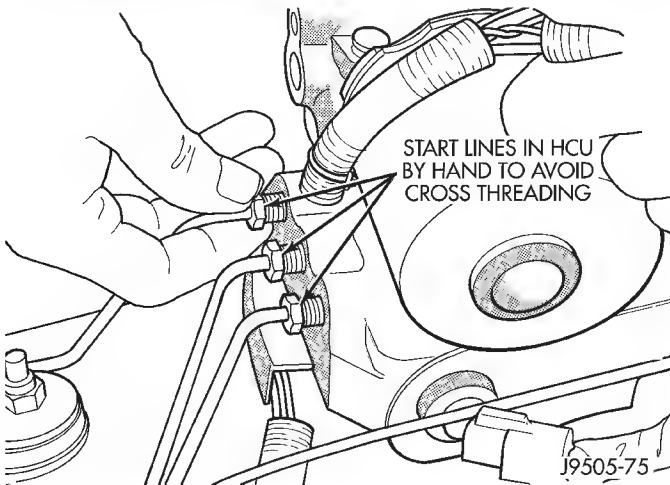

Fig. 24 Starting Brakelines In HCU
(15) Connect brakelines to HCU. Start brakeline fittings in HCU ports by hand to avoid cross threading (Fig. 24). Then tighten line fittings snug but not to required torque at this time.